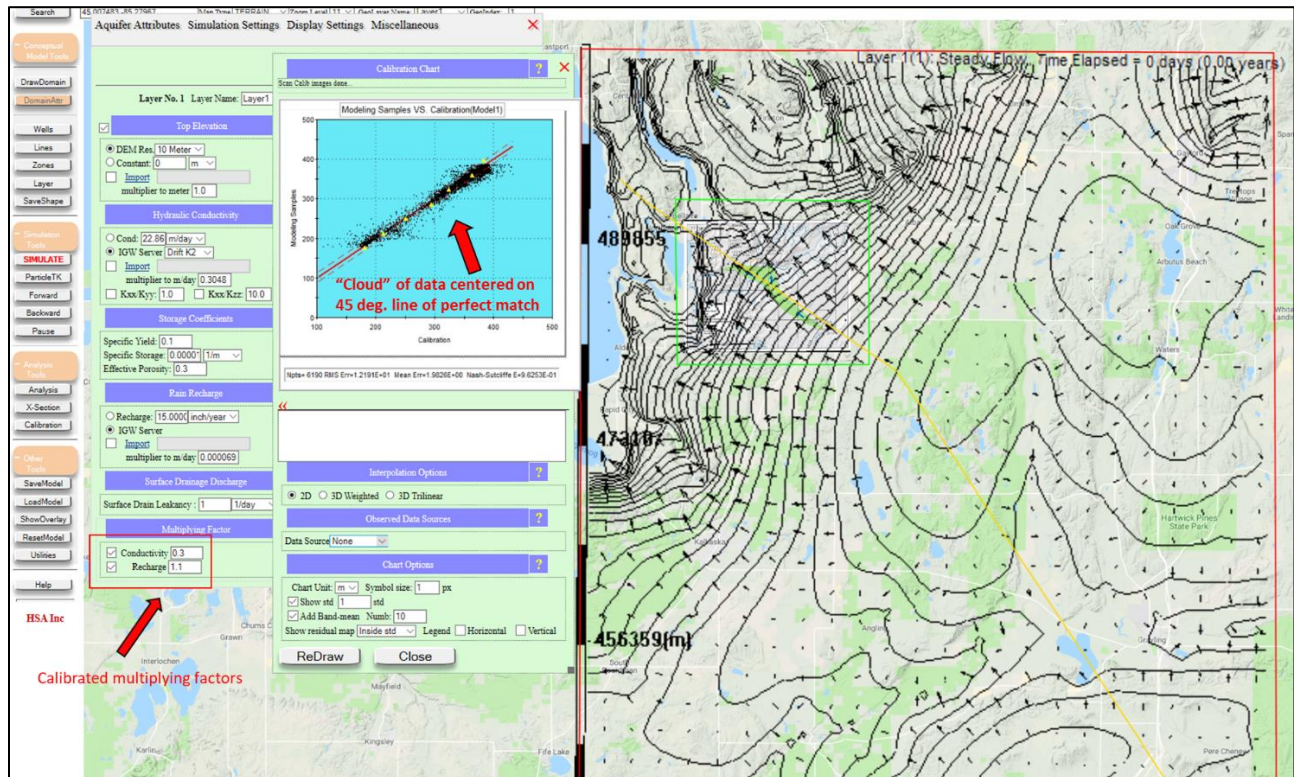

Figure 10. Calibrated regional model results. Note that both the cloud of data and the band-mean is centered on the 45 deg. line of perfect match.
- Use the Domain Attributes menu to apply multipliers of 0.3 and 1.1 to the hydraulic conductivity layer and recharge layer, respectively (see Figure 10).